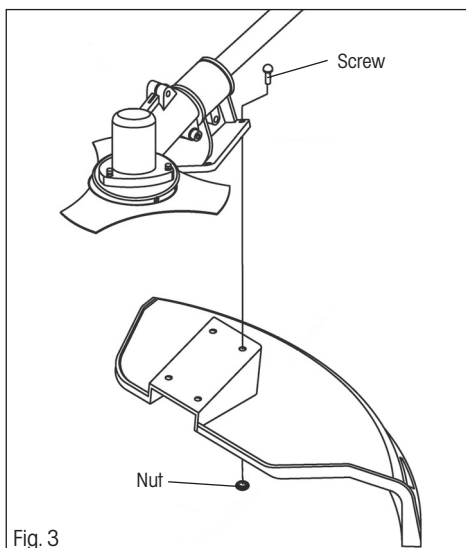

Fig. 3
- ✿ Install the protective guard on to the shaft using the supplied screws and nuts (see fig. 3)